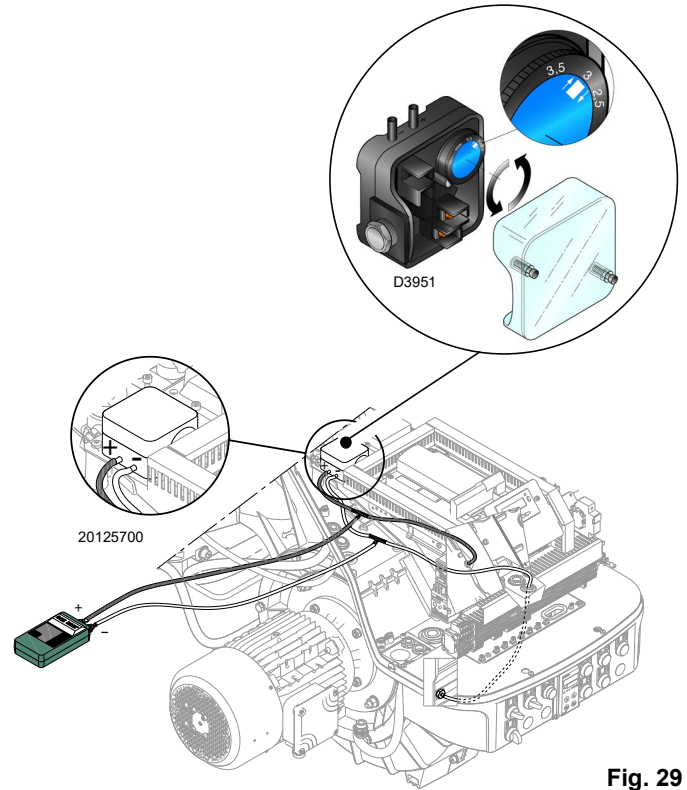

Fig. 29
- Adjust the air pressure switch to the zero position of the scale (Fig. 29 on page 29).
For the **RS 310-410-510** models, the air pressure switch is connected in absolute mode and is activated by the positive pressure from the fan (Fig. 29).
Adjust the air pressure switch (Fig. 29) after having performed all other burner adjustments with the air pressure switch set to the min. of the scale.